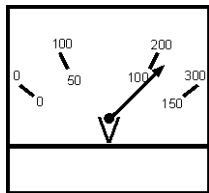
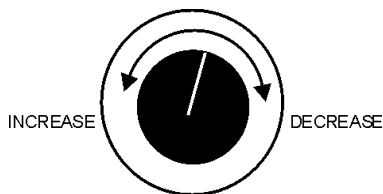

Figure 57. Engine Speed Switch (low)
Figure 58. Voltage Adjust Control Knob
14. The generator's voltage meter (Figure 57) displays the 120 VAC in **VOLTS**. If the voltage is not within the specified frequency tolerance, use the voltage adjustment control knob (Figure 58) to increase or decrease the desired voltage.